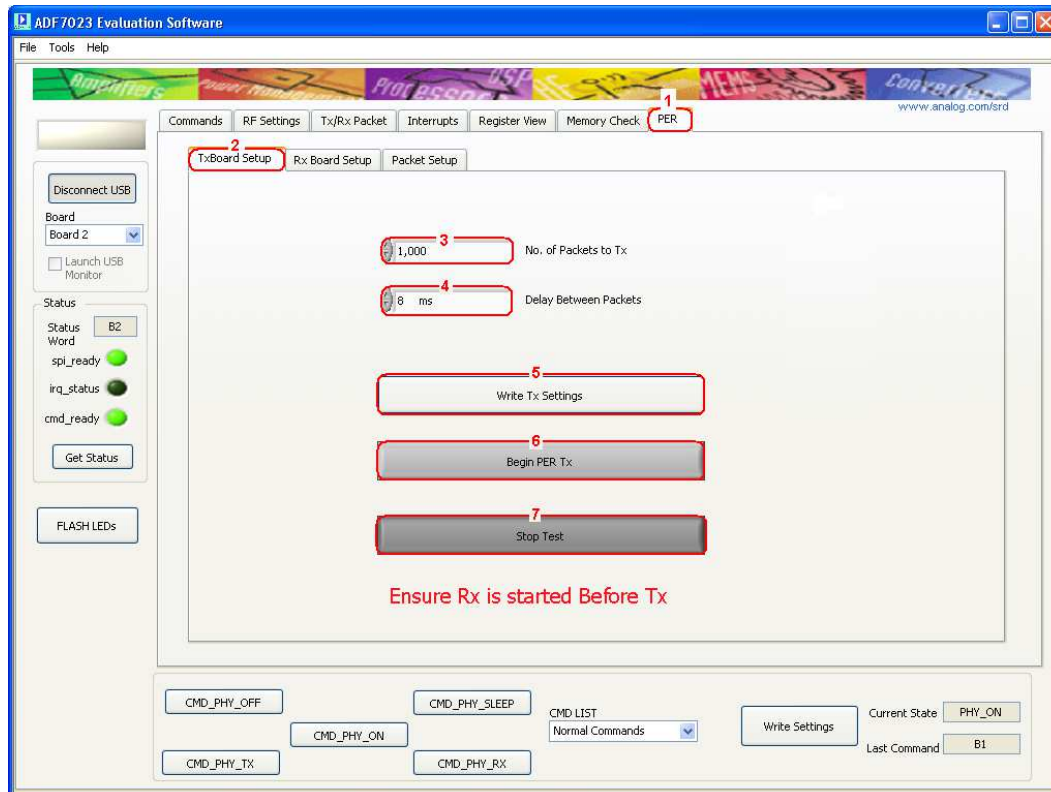

Figure 40
1. Once all of the Transmitter and packet parameters are setup correctly (as in Tx Setup in Packet Mode section) then select the “**PER**” Tab. (Figure 40 point (1))
2. Select the “**Tx Board Setup**” Tab (Figure 40 point (2))
3. Set the number of packets to be received, “**No. of Packets to Tx**” (Figure 40 point (3))
4. Set the delay between each transmitted packet from the “**Delay Between Packets**” dropdown menu. (Figure 40 point (4))
5. Write these settings to the uC by clicking “**Write Tx Settings**” (Figure 40 point (5))
6. To begin the test and put the receiver into Tx click “**Begin PER Tx**” (Figure 40 point (5))
7. If at any time you wish to terminate the test manually press “**Stop Test**”. (Figure 40 point (6))